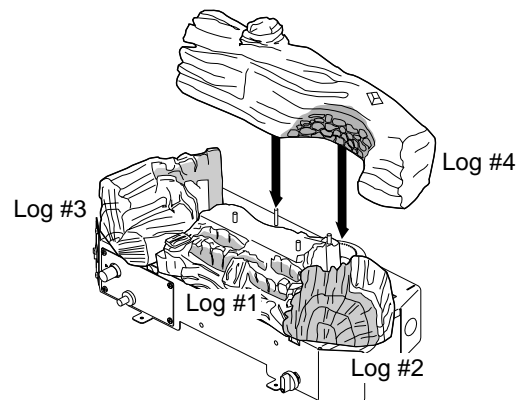

Figure 22 - Installing Log #4 (Model CSG3924NR Shown)
4. Place log #4 onto two alignment screws to the rear of base (see Figure 22).